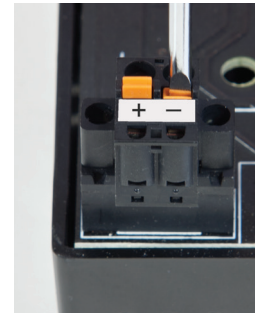

Figure 5.2 - Spring-clamp
2. When wiring to spring-clamp terminals, use a screwdriver with a 3-4 mm blade and depress the spring-clamp button before inserting the termination cable. See Figure 5.2.